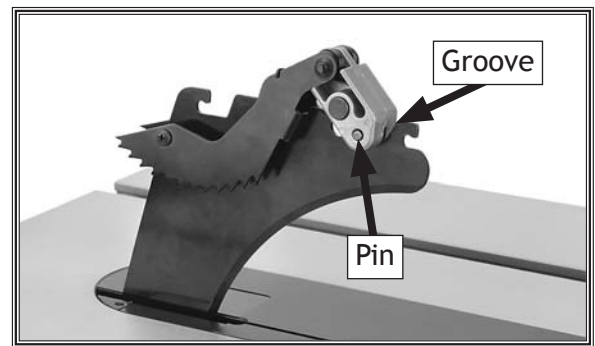

Figure 10. Re-installing pawls.
2. Slide the pin in the pawl block into the second groove from the front of the spreader, as shown in **Figure 10**.